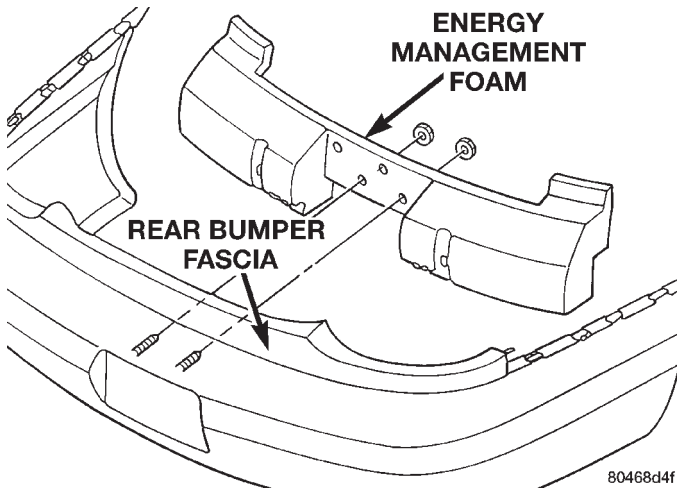

Fig. 5 Rear Bumper Energy Management Foam
(1) Ensure that the energy management foam is properly installed in rear fascia (Fig. 5).
(2) Position fascia on vehicle and slide forward to engage studs on quarter panel.